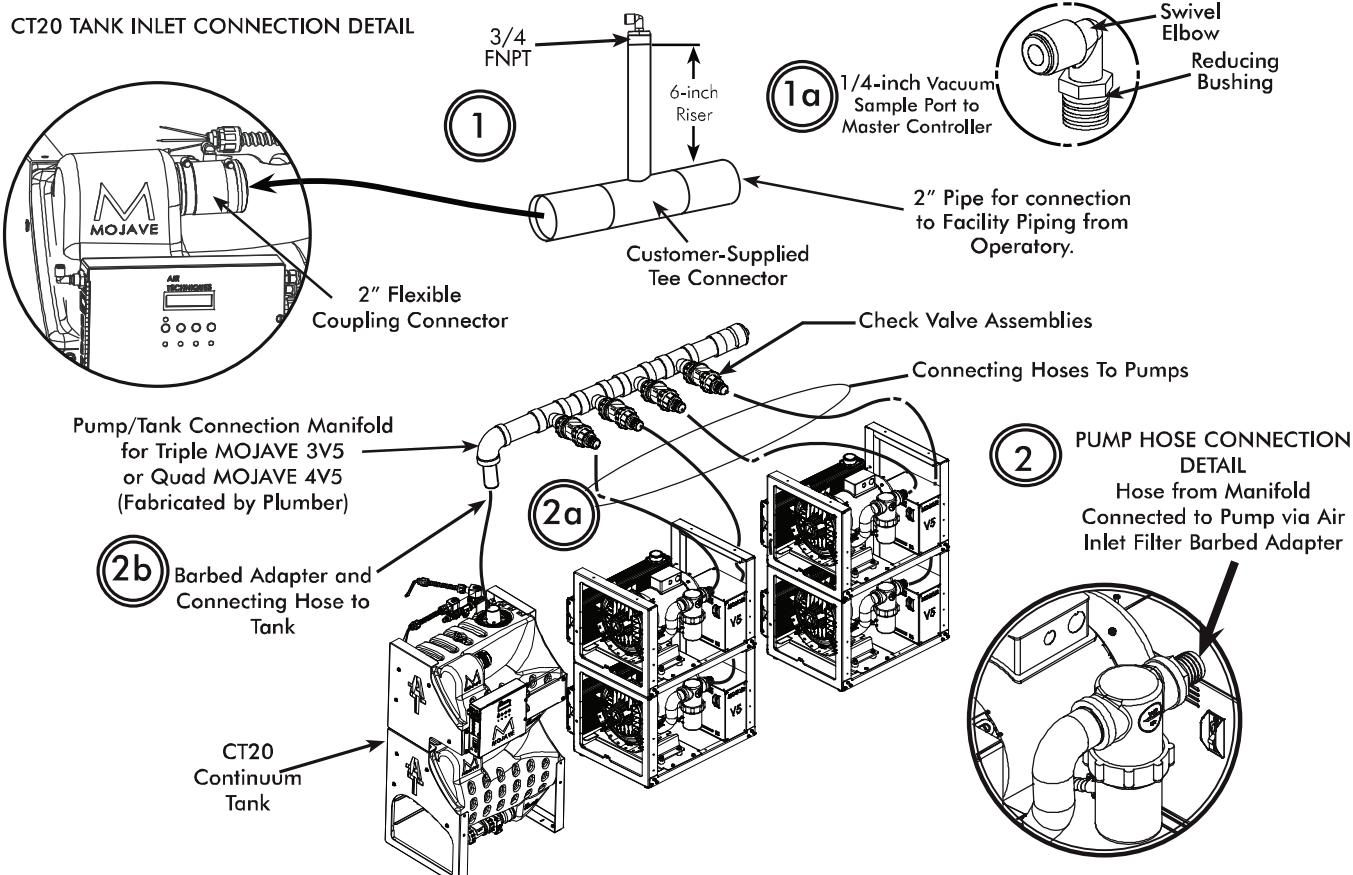

Figure 12. 3V5 or 4V5 System Connection Detail Using Accessory Kit
5. Using customer-supplied $\frac{3}{4}$ inch and 2 inch pipe, fabricate an inlet tee connector as shown by Figure 12. Install an $\frac{1}{4}$ -inch elbow connector to the $\frac{3}{4}$ inch riser of the tee connector using an $\frac{3}{4}$ inch bushing. Both the elbow connector and bushing are provided in accessory pack H5243 or H5289.
8. Measure and record distance between each connection point as shown in the corresponding connection detail diagram, Figure 12.
1. **Suction Line to Tank Inlet Connection.** Refer to Figure 12, item (1).
- d. Install a length of $1/4$ inch OD Urethane Tubing (P/N 51453) between the vacuum sample port and the vacuum inlet port of the Master Controller. See Figure 12, item (1a.).
2. **Tank Air Outlet to Pump Inlets Connection.** Refer to Figure 12, item (2).
- a. Connect 1 1/2" ID, clear hose (P/N 54521) cut for installation between the barb connectors of the Pump/Tank Connection Manifold check valves and the air inlet filter of each pump. Secure with four hose clamps (P/N 57169). See Figure 12, item (2a.).
- b. Connect 1 1/2" ID, clear hose (P/N 54521) cut for installation between the tank outlet port and barb connector of the Pump/Tank Connection Manifold. Secure with two hose clamps (P/N 57169). See Figure 12, item (2b.).